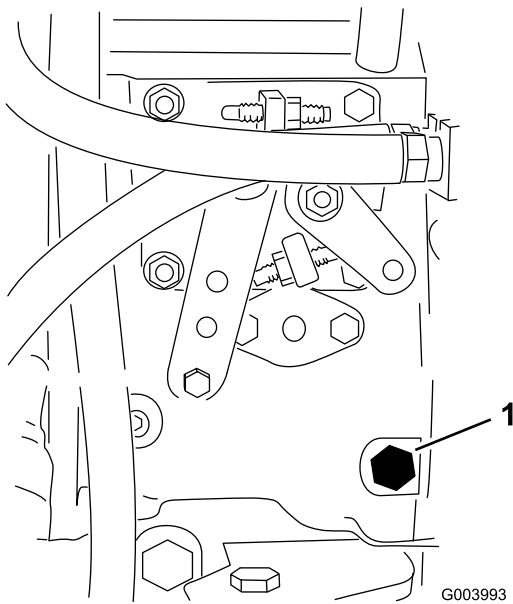

Figure 40
3. Open the air bleed screw on the fuel injection pump (Figure 40) with a 12 mm wrench.